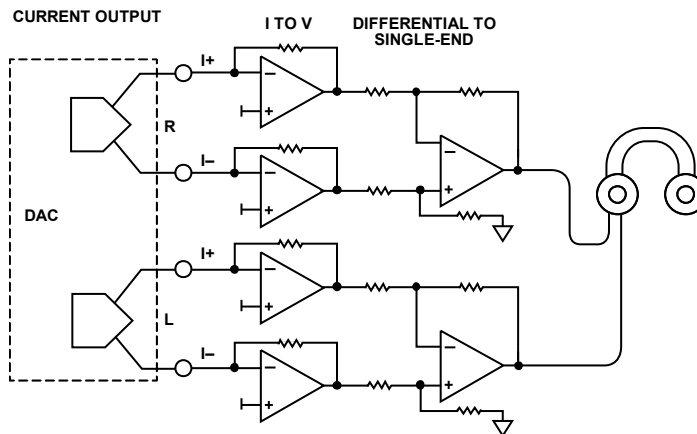
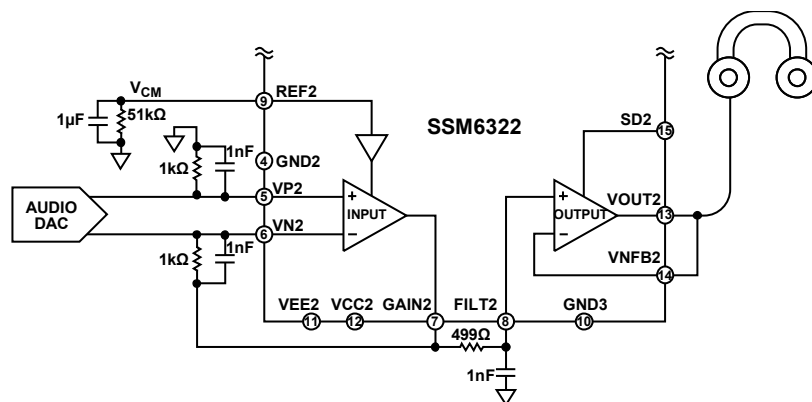

Figure 41. Current Output DAC Configuration
Figure 46. SSM6322 Circuit with Current Output DAC
For a current output configuration, implement an current to voltage (I to V) circuit to convert the differential current signal from the R channel and the L channel to the differential voltage signal, followed by a difference amplifier circuit (see Figure 41).
Current output audio DACs are typically used to achieve the best THD + N performance (see Figure 41). Six amplifiers and many passive components are required to perform current mode signal conditioning, which consumes more PCB area and more power. Area consumption and power consumption are important considerations in mobile phone applications.
In a typical current output DAC signal chain (see Figure 41), four amplifiers are configured as an I to V circuit. The non-inverting inputs are connected to a dc voltage that is the output common-mode level of the DAC, making the voltage at the I+/I- terminals a dc signal. This signal makes the voltage drop at two internal source resistors of the DAC (R_{S1} and R_{S2}) the same, which makes the DAC achieve the best distortion performance.
For an audio DAC with a differential current output, two gain resistors convert the current to voltage (see Figure 46). The resistor value is determined by the DAC output full-scale current and the input stage output range (the output range is $\pm 3\text{ V}$ at a $\pm 5\text{ V}$ supply). Assuming that the DAC single-ended output current is $\pm 1.5\text{ mA}$, and that the differential current is $\pm 3\text{ mA}$, the output of the input stage is $\pm 3\text{ V}$ when using two $1\text{ k}\Omega$ gain resistors. The feedback capacitors, in parallel with the gain resistors, form a single-pole, low-pass filter. The SSM6322 can handle up to a $1\text{ k}\Omega$ and 2.2 nF resistor capacitor combination.
A $499\text{ }\Omega$ resistor and 1 nF capacitor can be added between the input stage and output stage for a second single-pole, low-pass filter, as shown in Figure 46.
- The SSM6322 circuit is different with a typical current output DAC signal chain (see Figure 41); there is only one op amp that performs the differential I to V conversion. The power across the noninverting grounded resistor is fixed, but the power across the feedback resistor varies with the output signal. This variability creates a mismatch between the two resistors, as well as distortion if the heat cannot be well dissipated. Low drift (25 ppm/°C) metal film or thin film resistors are suggested to avoid this situation (see Figure 46).